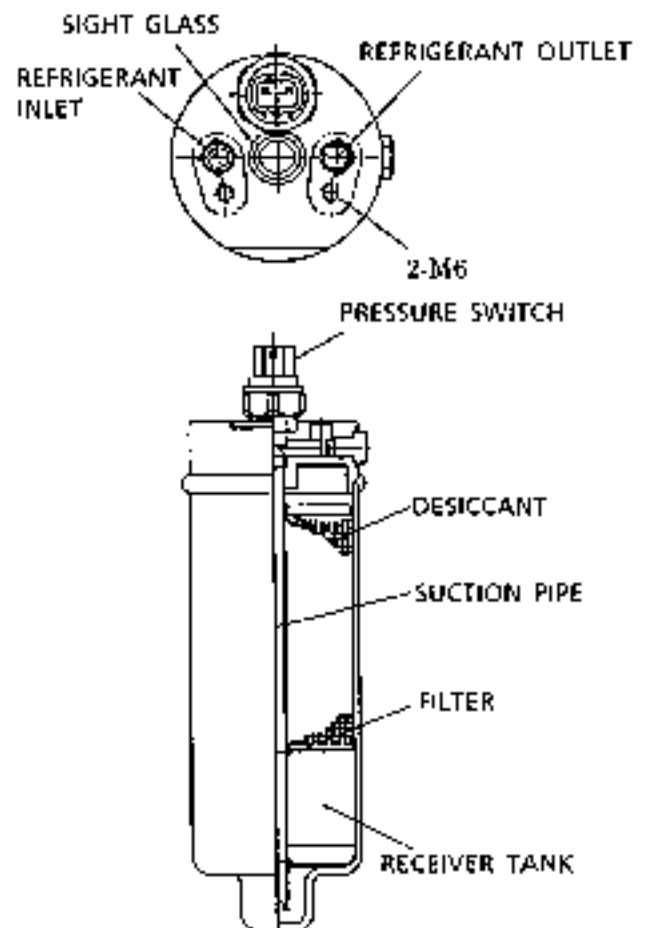

Fig. 11 Receiver dryer
(5) Receiver Dryer (See Fig.11.)